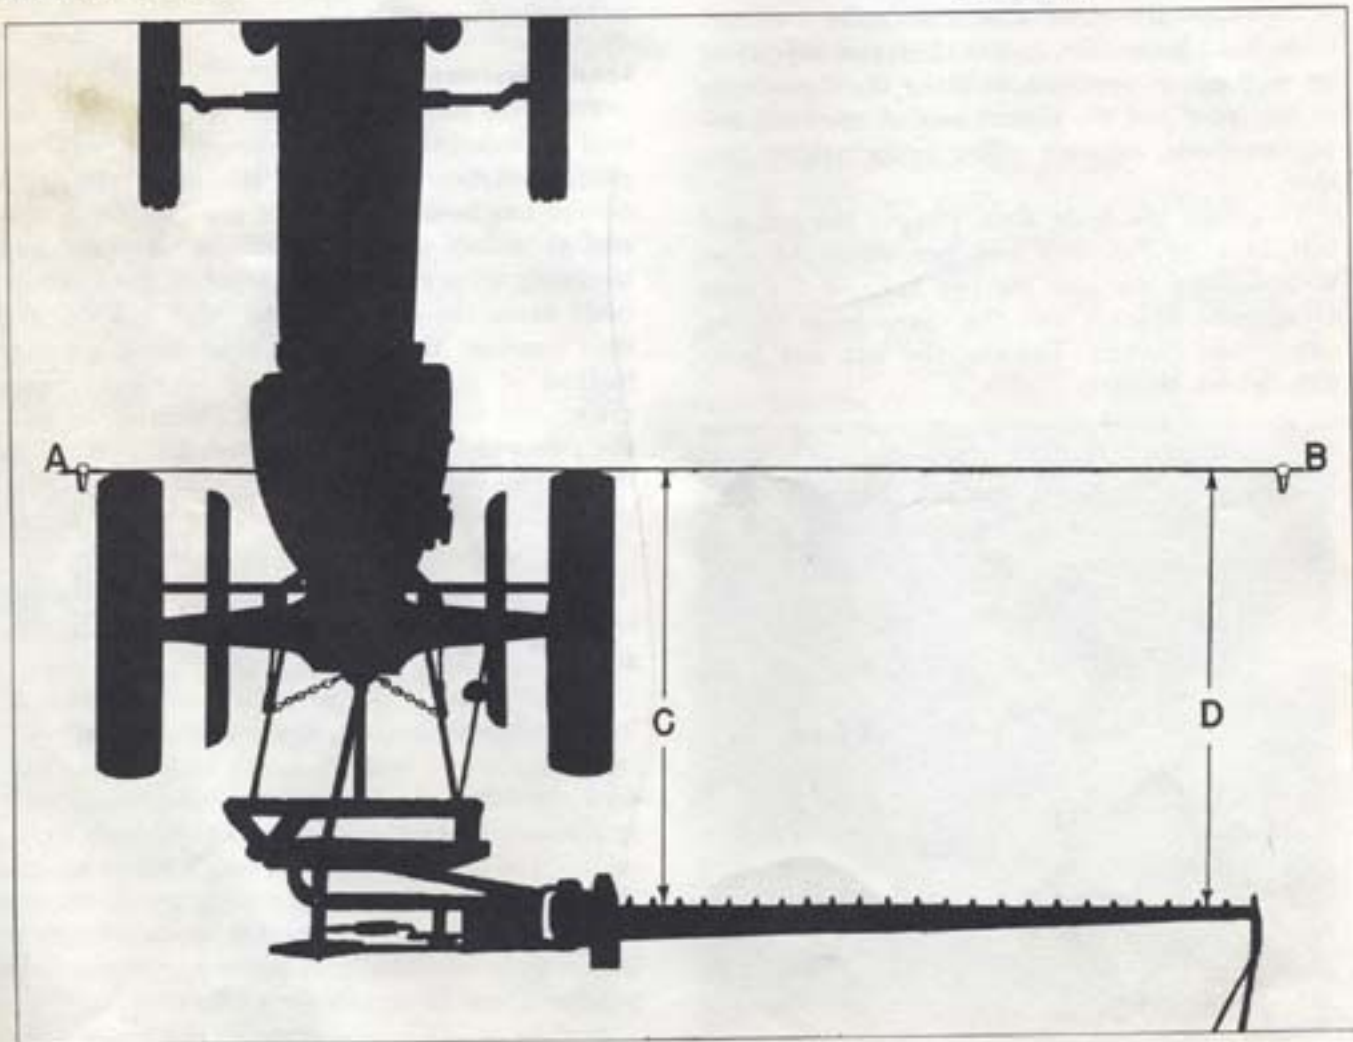

Fig. 32 Checking Cutter Bar Lead
2. Drive two stakes into the ground to the left and right of the tractor as illustrated in the diagram (Fig. 32).